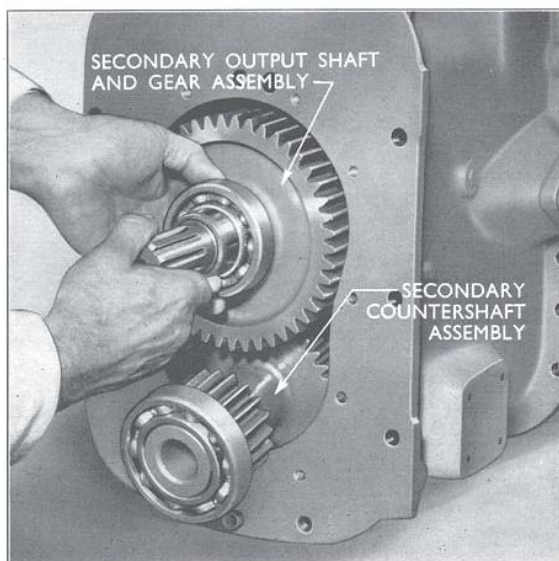

Fig. 11
7. Partially remove the secondary transmission countershaft gear assembly so that the inner bearing is free from its locating bore and lower the assembly on to the floor of the gearbox rear compartment. Withdraw the secondary transmission output shaft and gear assembly followed by the secondary countershaft assembly (see Fig. 11).